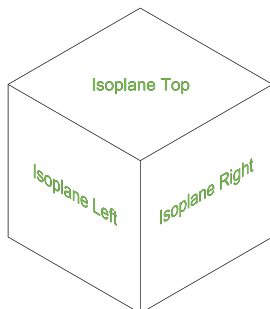

Fig. 7.16 The three isoplanes
2. There are three isometric angles – **Isoplane Top**, **Isoplane Left** and **Isoplane Right**. These can be set either by pressing the **F5** function key or by pressing the **Ctrl** and **E** keys. Repeated pressing of either of these ‘toggles’ between the three settings. Figure 7.16 is an isometric view showing the three isometric planes.